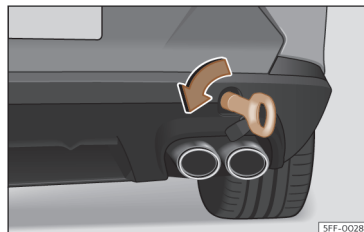

Fig. 47 On the right side of the rear bumper: towline anchorage in position.
- Screw the towing eye in the housing by turning it to the maximum **anticlockwise** »» Fig. 47 »» ❶. Use a suitable object that can completely and securely tighten the towing eye in its housing.